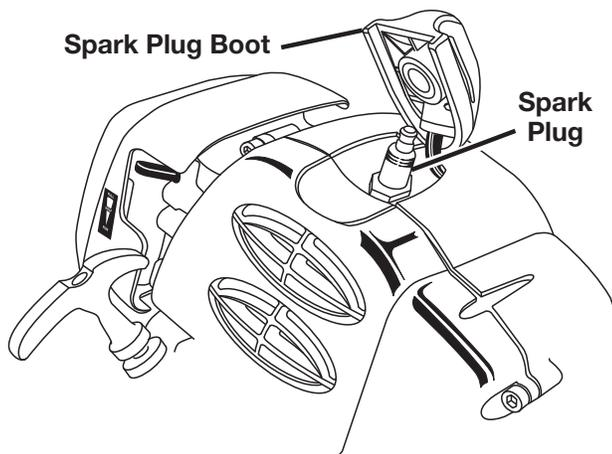

Figure 24
18. Replace the spark plug boot. *See Figure 24.*
2. Remove the spark plug boot. *See Figure 24.*
14. Replace the spark plug boot. *See Figure 24.*
See Figure 24.